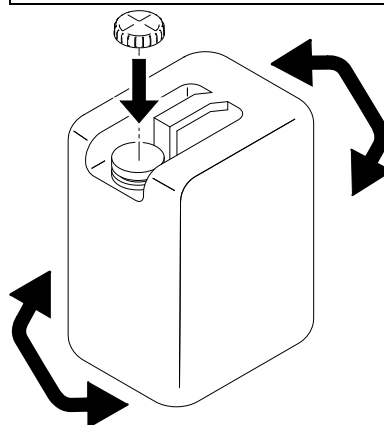

Figure 24. Mixing container
4. Shake the mixing container for 5 seconds (see figure 24 on page 5-11).